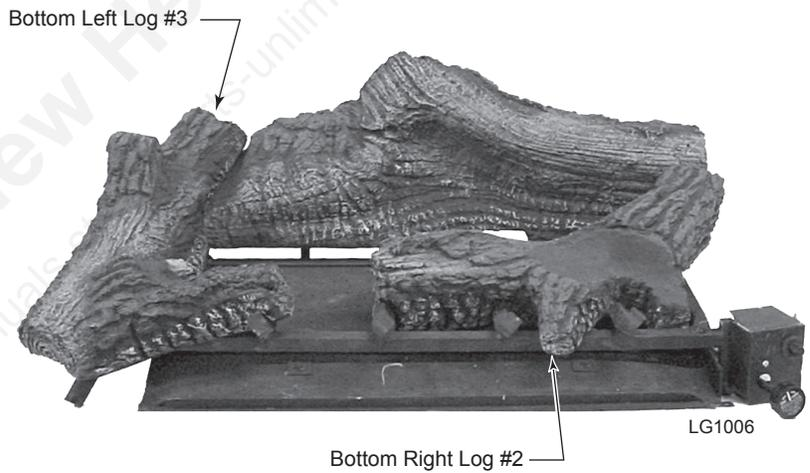

Figure 47
2. Place bottom right log (#2) on right side of grate in front of back log. *Figure 47*
3. Place bottom left log (#3) on left side of grate in front of back log. *Figure 47*